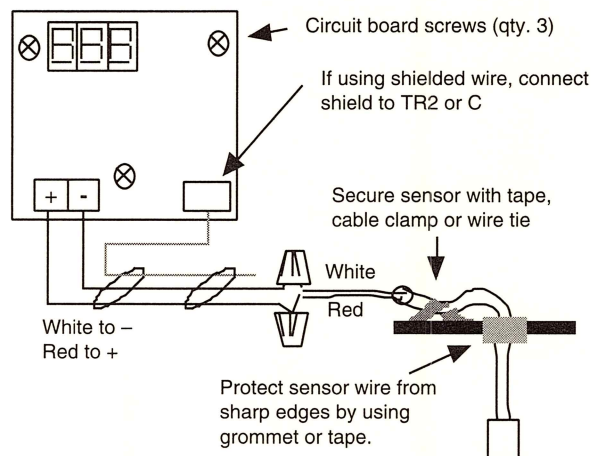

Figure 3. Capacity Controller with Remote Sensor
- E. If mounting sensor remotely, refer to **Figure 3** and do the following: